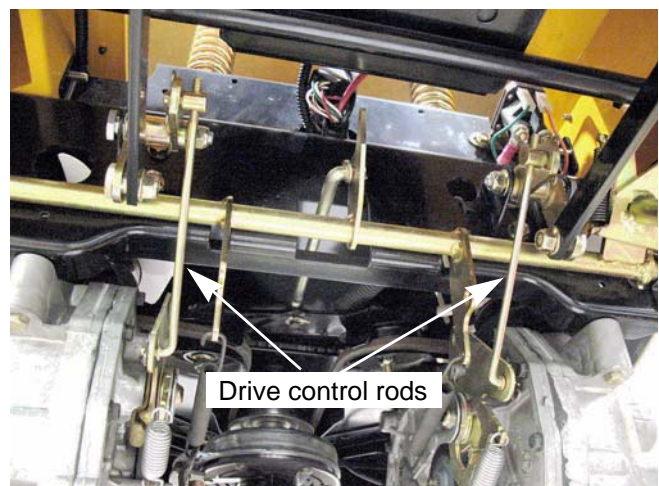

Figure 6.19
4. Remove the hairpin clips that secure the drive control links to the speed selector plates. See Figure 6.19.